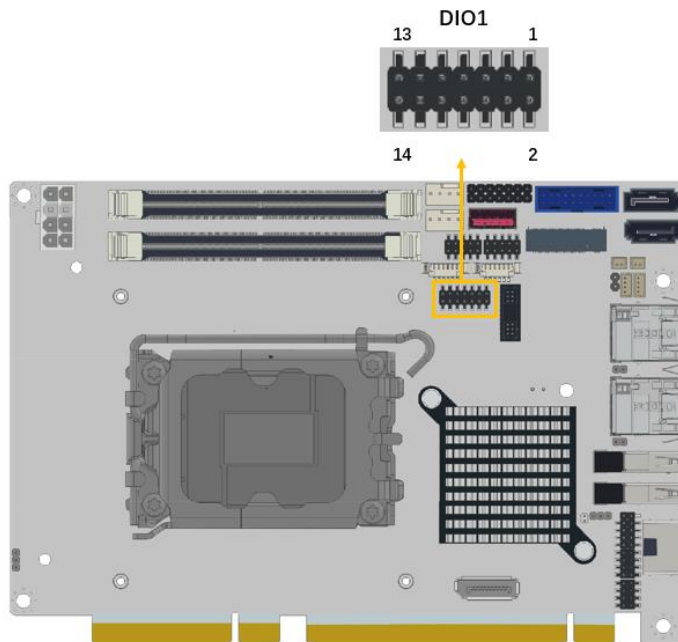

Figure 3-11: Digital I/O Connector Location
- CN Location:** See **Figure 3-11**